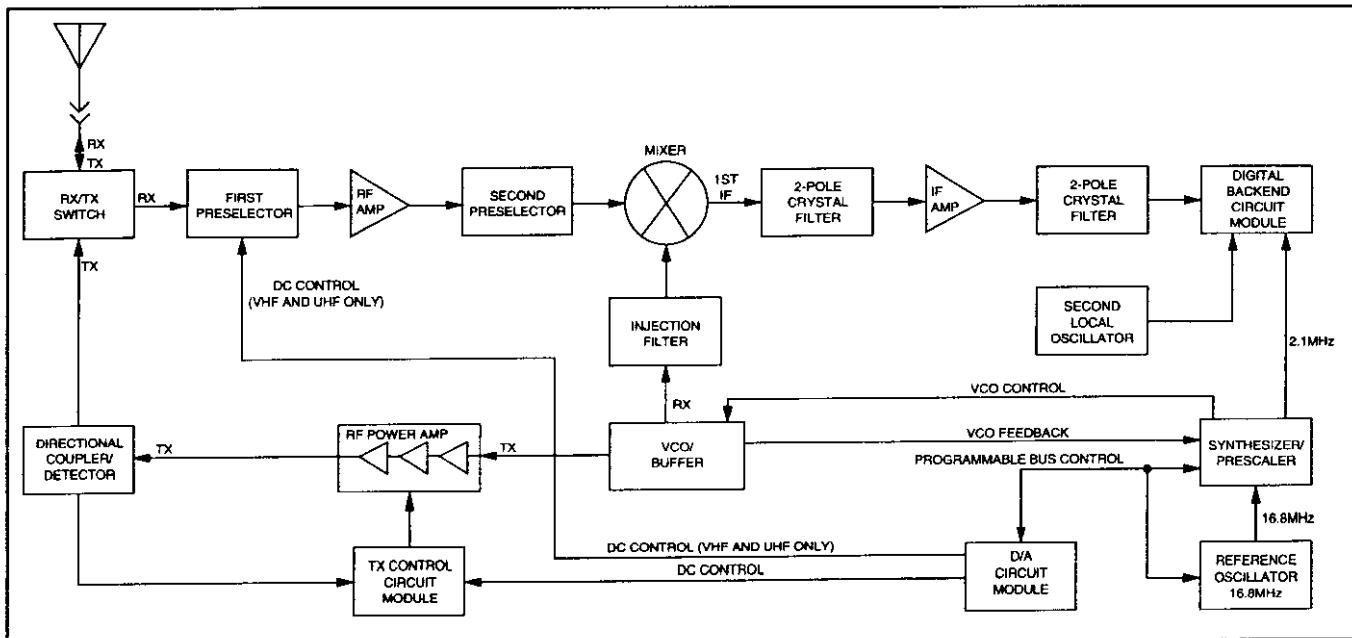

Figure 5-1 RF Board Block Diagram
The receiver front end consists of a preselector, RF amplifier, second preselector, and mixer (see Figure 5-1). Both preselectors on the VHF board are varactor-tuned, two-pole filters controlled by the microcontroller unit through the D/A IC. The 800 MHz board uses stripline technology for the preselector. The RF amplifier is a dual-gate gallium-arsenide IC. The mixer is a double-balanced, transformer-coupled active mixer. Injection is provided by the VCO through an injection filter. See Table 5-1 for local oscillator (LO) and first IF information.
The filtered RF signal is routed via a broadband 50-ohm transformer to the input of a broadband mixer/buffer. The mixer uses GaAs FETs in a double-balanced Gilbert Cell configuration. The RF signal is mixed with a first LO signal of about -10 dBm supplied by the FGU. Mixing of the RF and the first LO results in an output signal which is the first IF frequency according to Figure 5-1. The first IF signal output is routed through a transformer and impedance matching components and is then applied to a two-pole crystal filter. The two-pole crystal filter removes unwanted mixer products.